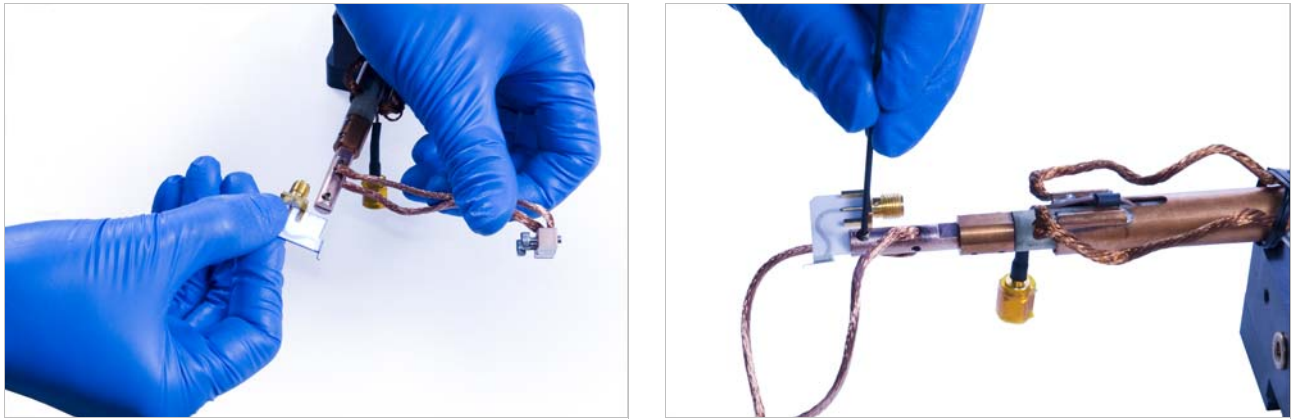

FIGURE 3-23 Left: Slide the blade into its slot; Right: Carefully tighten the probe mount set screws
- b. Slide the new blade all the way into the probe slot (FIGURE 3-23). Its bottom edge should be square and flush with the bottom of the probe mount. Hold the new blade in position.
- d. Rotate the probe mount and tighten the opposing set screw, keeping the blade all the way back in its slot and flush to the probe mount (FIGURE 3-23). Tighten the screw until the blade does not move with finger pressure. Be careful not to over-tighten, as the alumina is delicate and will crack. Rotate the probe back to the upright position.